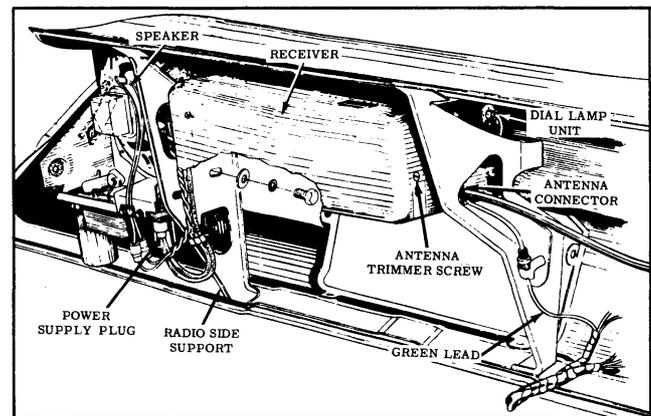

Fig. 15-4 Speaker and Receiver
The dial light is mounted in a long flexible socket which is inserted through the left side of the receiver. (See Fig. 15-4) The socket may be removed to replace the light bulb.
2. Disconnect radio lead (green) from lead in ignition switch branch of main wiring harness. (See Fig. 15-4)
### SPEAKER REMOVAL FIGS. 15-4 AND 15-5
3. With a small screwdriver adjust the antenna trimmer for maximum volume. (See Fig. 15-4)